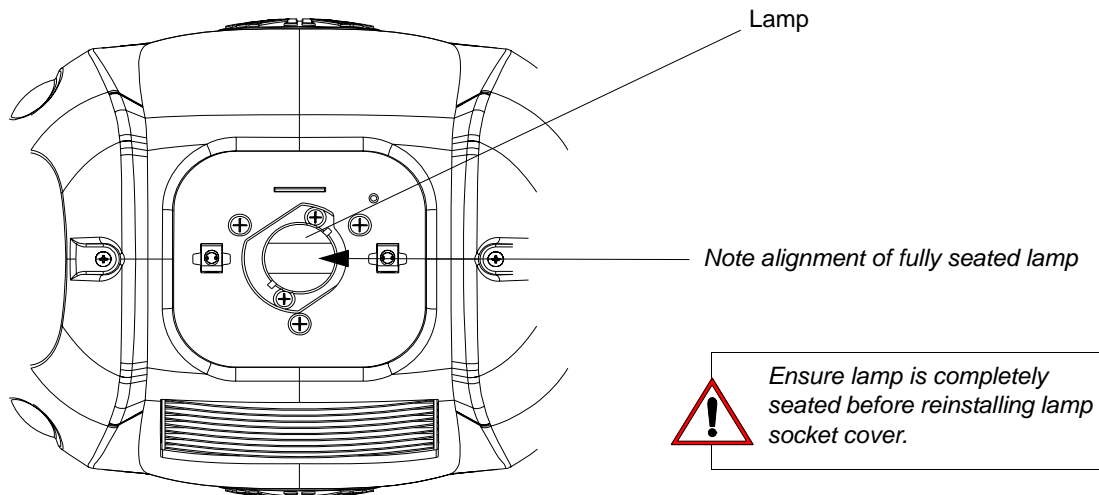

Figure 2-4: Installed Lamp
Step 8. Turn lamp clockwise to seat lamp into socket. Lamp base should be aligned as illustrated in Figure 2-4.